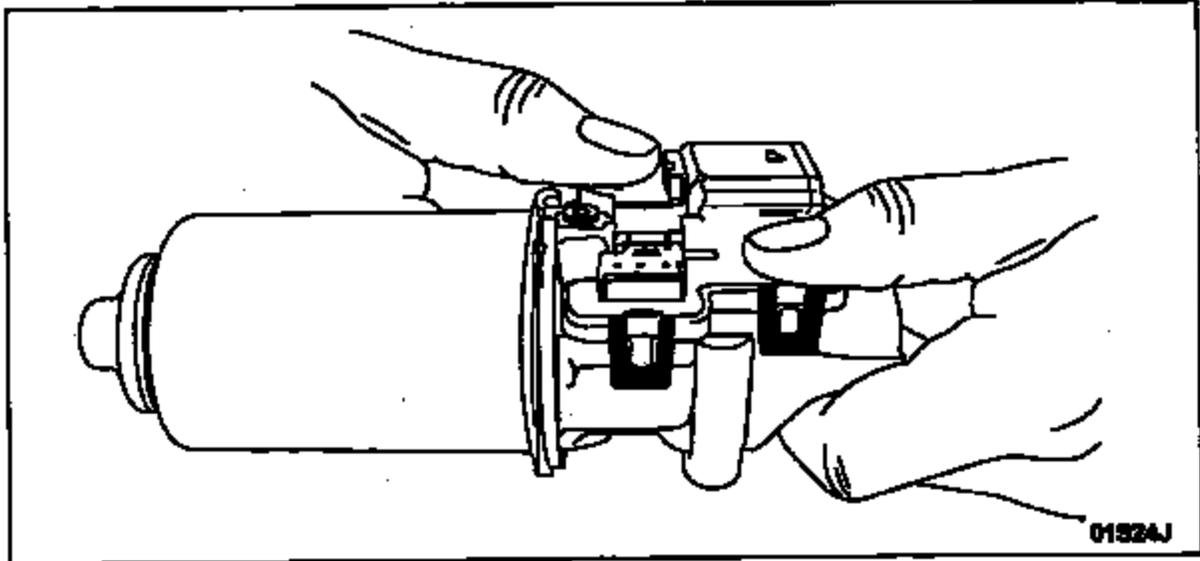

FIGURE 10
2. Using two hands, push the gear cover downward onto the gear housing uniformly, to ensure that the electrical terminals remain in alignment. Push down firmly until all five locking tabs are latched correctly. See Figure 10.